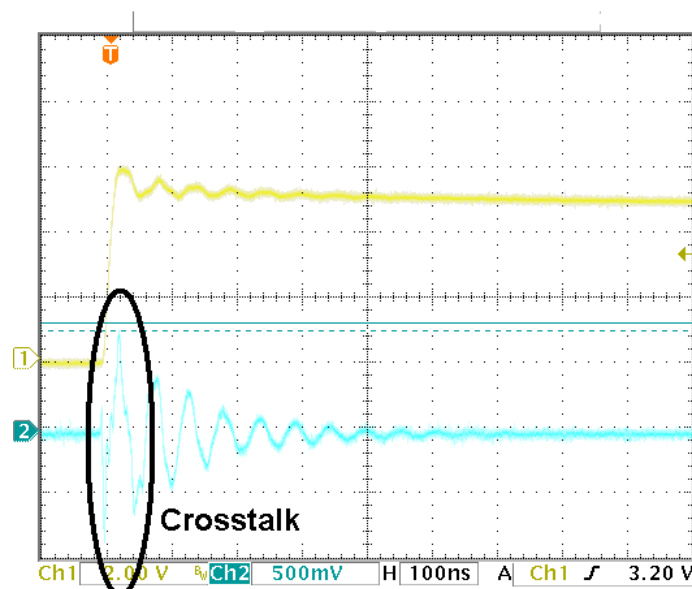

Figure 11: Crosstalk on Encoder Wire
e.g.: Figure 11: Crosstalk on Encoder Wire shows crosstalk from channel A to channel B.